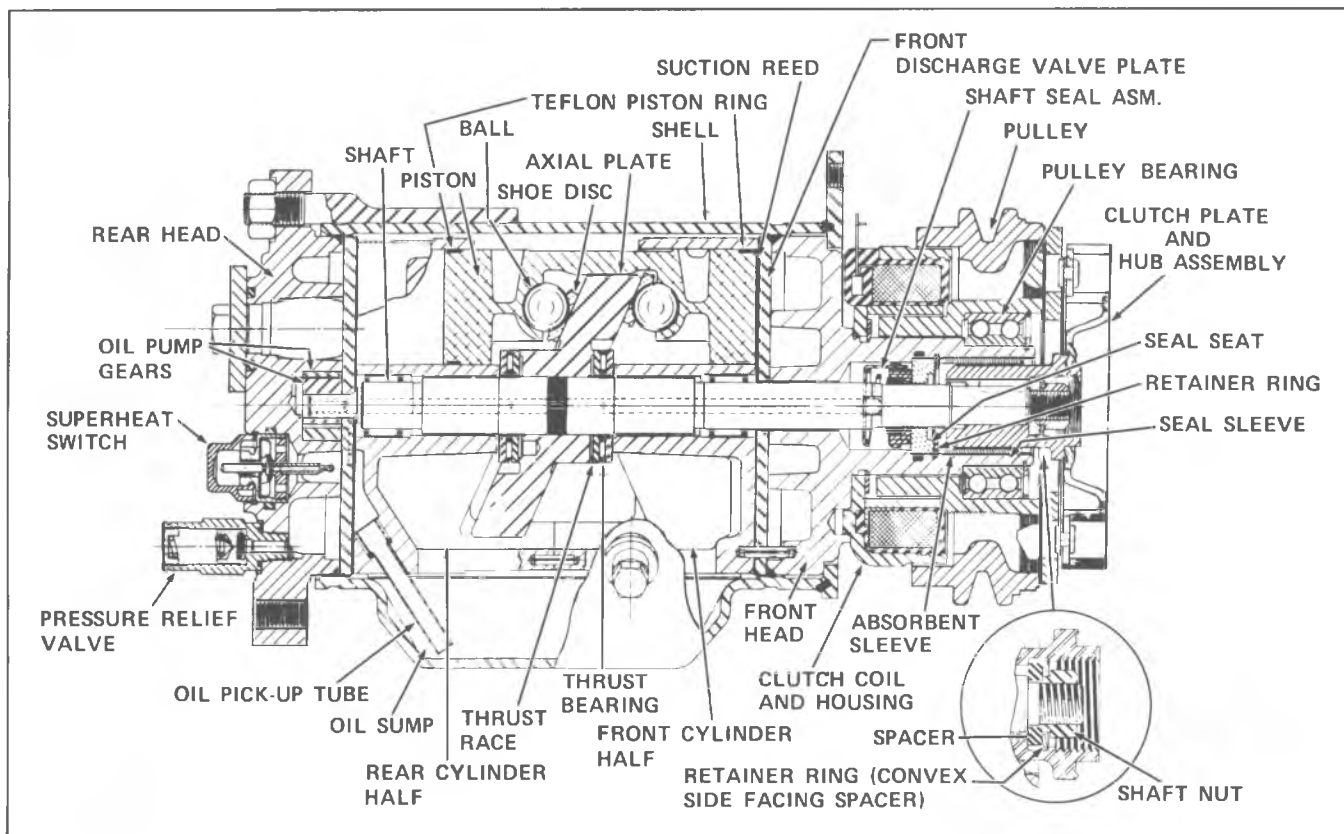

Fig. 2--A-6 Compressor Cross Section
5. Install the hub spacer and, using Snap-Ring Pliers J-5403 (#21), install the retainer ring (see installed Retainer Ring in inset of Fig. 2), with convex side of ring facing spacer.